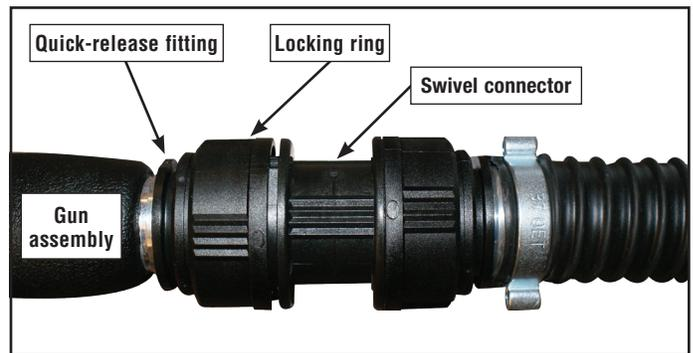

Figure 2. With locking ring unscrewed (as pictured) pull quick-release fitting toward hose.
1. Rotate the locking ring on the swivel connector (*Figure 2, page 4*) counterclockwise 180° until it clicks.
1. Leave the locking ring open (unscrewed) as shown in *Figure 2*. If the locking ring is in the closed position, follow *Step 1*, above.